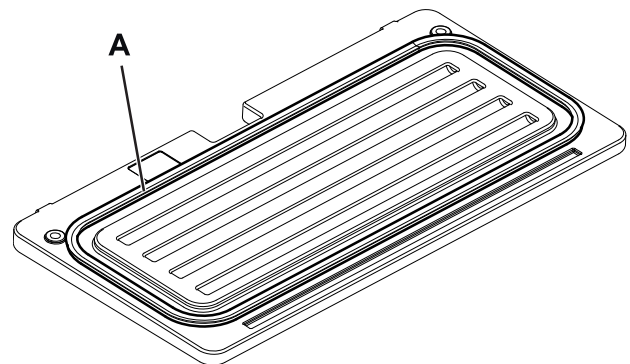

Figure 12
12. Clean the rubber gasket (A, Fig. 12) of the cover (32) and check it for integrity and efficiency; if necessary replace it.